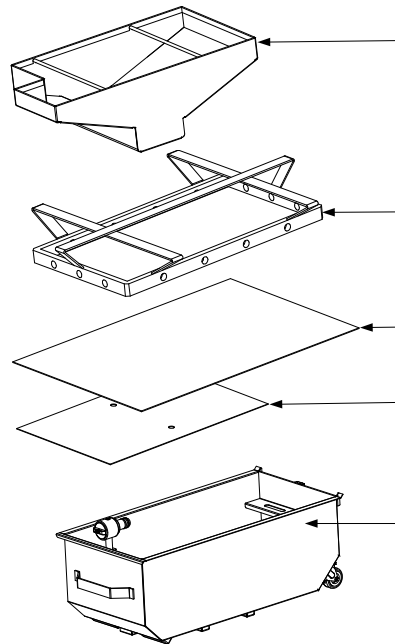

Figure 15
1. Pull the filter pan out from the cabinet slightly and wait until the dripping stops before completely removing the pan (shown below). and remove the crumb tray, hold-down ring, filter pad or paper and filter screen (see Figure 15). Clean all components with a solution of All Purpose Concentrate solution or detergent and hot water then dry thoroughly.
3. Then in reverse order, place the metal filter screen in the center of the bottom of the pan, then lay a sheet of filter paper on top of the screen, overlapping on all sides (see Figure 15). If using a filter pad, ensure the **rough** side of the pad is up and lay the pad over the screen, making sure that the pad is in between the embossed ridges of the filter pan.